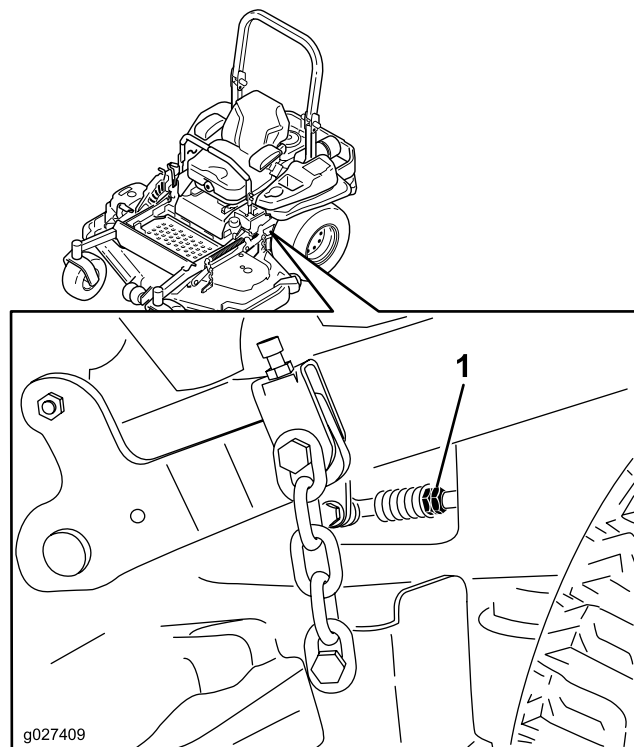

Figure 83
10. Adjust the pump-control-rod lengths by rotating the double nuts on the rod in the appropriate direction until the wheels slightly creep in reverse (Figure 83).